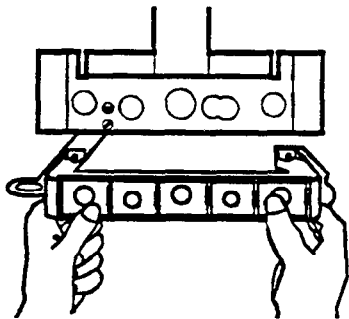

Fig. 21
- a) Attach plastic jig plate to bottom bracket using 4.6 mm x 10 hexagonal screws provided (fig. 21).
- b) Fit copper tails and washers to jig plate, the mains water inlet tail (M) is the shorter of the two 15 mm tails